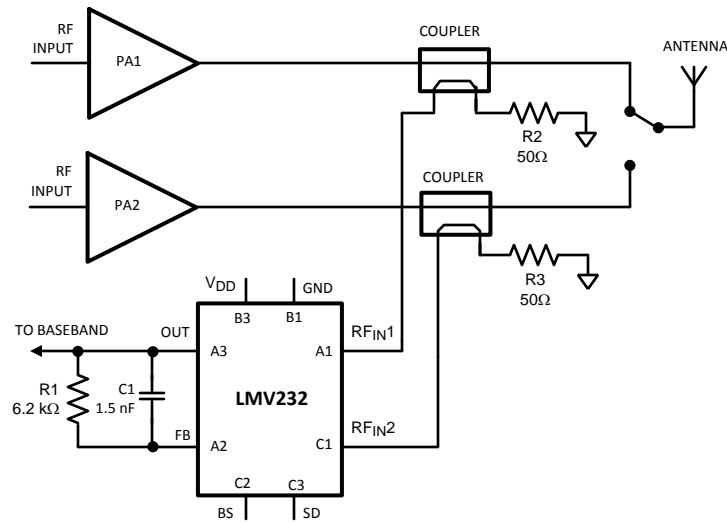

Figure 21. Typical Application
The LMV232 is especially suited for CDMA and WCDMA applications with 2 Power Amplifiers (PA's). A typical setup is given in Figure 21. The output power of one PA is measured at a time, depending on the bandselect pin (BS). If the BS = High RF_{IN1} is used for measurements, if BS = Low RF_{IN2} is used. The measured output voltage of the LMV232 is read by the ADC of the baseband chip and the gain of the PA is adjusted if necessary. With an input impedance of 50Ω, the LMV232 can be directly connected to a 20 dB directional coupler without the need for an additional external attenuator. The setup can be adjusted to various PA output ranges by selection of a directional coupler or insertion of an additional (resistive) attenuator between the coupler outputs and the LMV232 RF inputs.
These three sections are leading back to three error mechanisms. At higher power levels the detectors output starts to saturate because the output voltage approaches the maximum signal swing that the detector can handle. The maximum output voltage of the device thus limits the upper end of the detection range. Also the maximum allowed ADC voltage of the baseband chip can limit the detection range at higher power levels. By adjusting the feedback resistor R_{FB} of Figure 21 the upper end of the range can be shifted. This is valid until the detector cell inside the LMV232 is the limiting factor.
The calibration measurement procedure can be explained with the aid of Figure 21, which depicts a typical power measurement setup using the LMV232. In normal operation, the two PA's in the setup will never be active at the same time. One PA will produce the required transmit power, while the other one is off, (disabled) and produces no power. The pedestal voltage should be measured in the absence of RF power. This can be achieved by switching the Band Select (BS) pin such that the LMV232 input is selected where the disabled PA is connected to. The pedestal voltage at no input power can be read at the output pin.